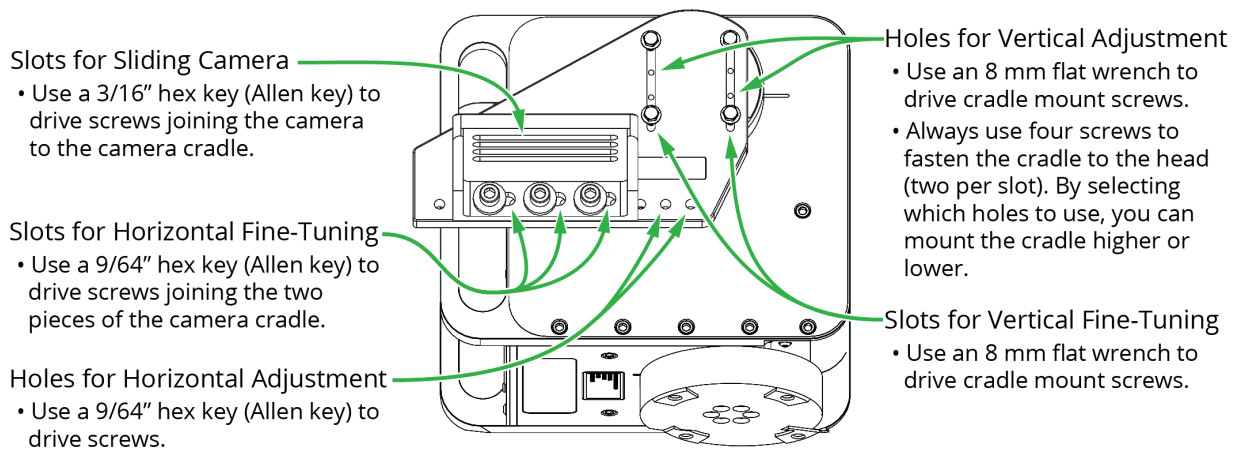

Figure 3.08 — Payload Balancing Adjustment Features
The head and camera cradle are designed to make balancing easy. Figure 3.08 illustrates the following payload balancing adjustment features:
4. Use the horizontal adjustment features (see Figure 3.08) to move the payload away from the direction it tilted, and then test again.
4. Use the vertical adjustment features (see Figure 3.08) to raise or lower the payload as required, and then test again.